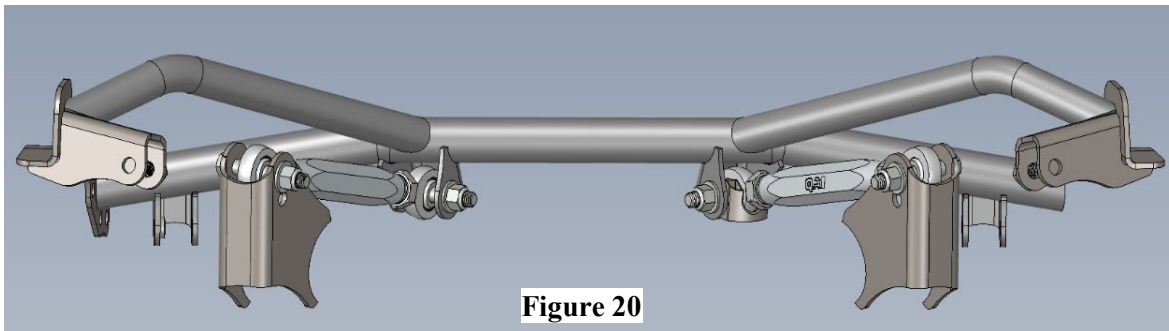

Figure 20
15. Identify the left/right weld-in mounts for the upper trailing arm to axle connection and install the red anodized upper trailing arms into the top hole with one SG88 spacer on each side of the rod end. Secure using 1/2"x 3.25" hardware with two washers and one Nyloc nut per connection. The upper trailing arms should now hang from the crossmember using weld-in brackets in preparation for the axle mock-up. (**Figure 20**)